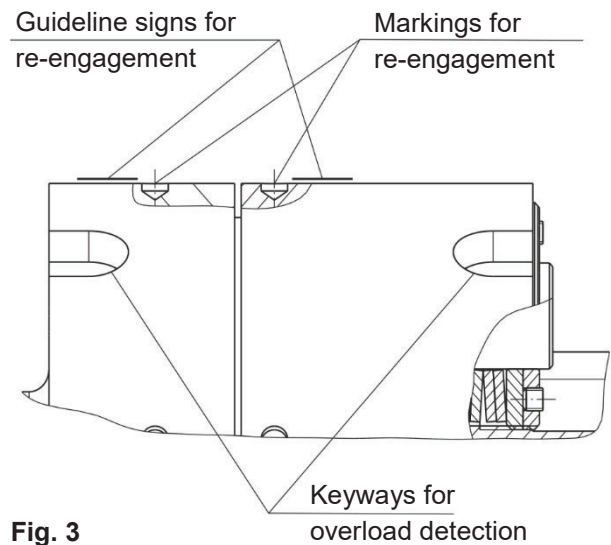

Fig. 3
The overload - i.e. the relative movement between the hub (1) and the pressure flange (5) - can be detected using the keyways of the two components (each 2 x 180° on the circumference, see Fig. 3 on page 10) which are aligned in operating condition, e. g. by means of speed monitors or optoelectronic sensors.
Re-engagement (Figs. 3 and 4)
Both of the yellow guideline signs for regaining the synchronous position (due to balance quality) on the outer diameters of the hub (1) and the pressure flange (5) must align with each other (Fig. 3).
The marking bores on the outer diameters of the hub (1) and the pressure flange (5) must align with each other (Fig. 3).